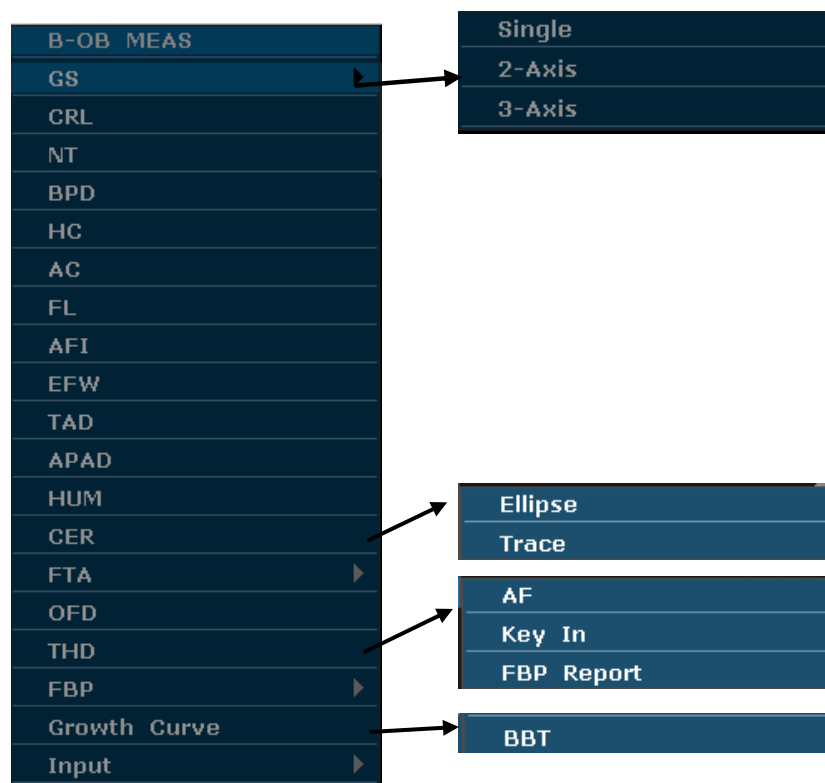

Figure 8-1 Obstetric Measurement and Calculation Menu in B mode
3. Press **Measure** to activate the application measurement function. The system displays the measurement menu, as shown in *Figure 8-1*.